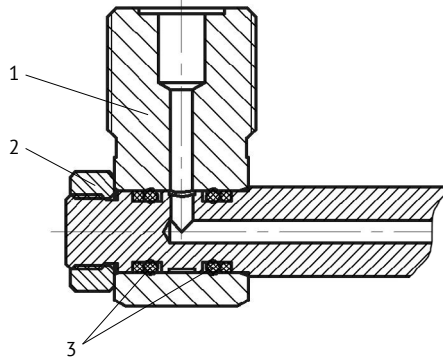

Fig. 4. Rack
6.8 Rack 1 (Fig. 4) is able to turn relative to the ramp tube axis. Rack required position is fixed with nut 2.